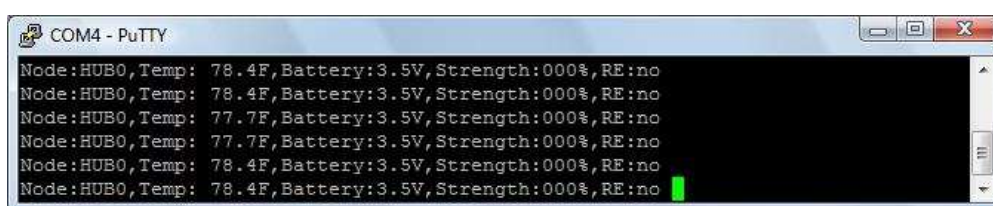

Fig. 4. Section 2.3 is done when you see a screen similar to this one.
- You obtain a screen close to the one depicted in Fig. 4.